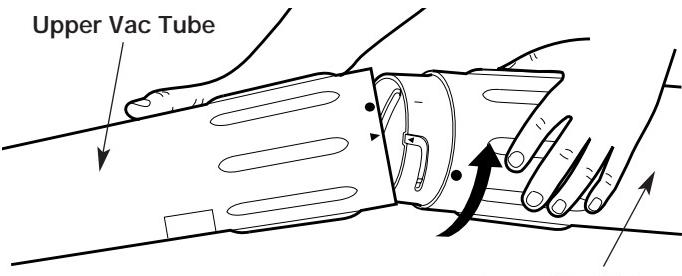

Fig. 2
- Align the small arrow on the lower vacuum tube with the arrow on the upper vacuum tube (Fig. 2).